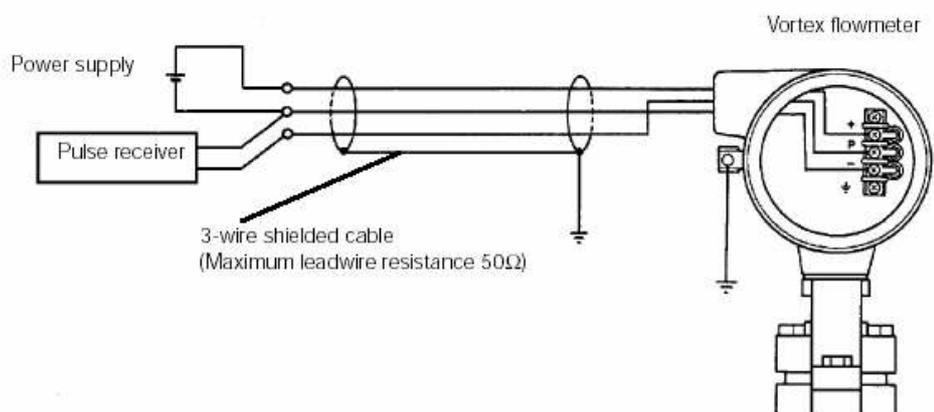

Fig. 4-4. Vortex flowmeter wiring connections (pulse output)
The remote converter type (VF100-N) Vortex flowmeter is used with the Model VFA11 converter (see Fig. 4-4). To connect these instruments, use a special cable (VF011). 20 m is the maximum length. The integral type vortex flowmeter (VF100-A) measures fluid flow rates and converts them directly to 4 to 20 mA DC output or pulse output signals.
This version uses three wires between the converter and the power supply. 14 to 30 V DC power (allowable ripple ±1.5 V or less) is required and pulse output is connected to a pulse receiver (see Fig. 4-4).
2. For pulse output version, ground the flowmeter as per Fig. 4-4. Also ground the shielded cable between the converter and the pulse receiver.